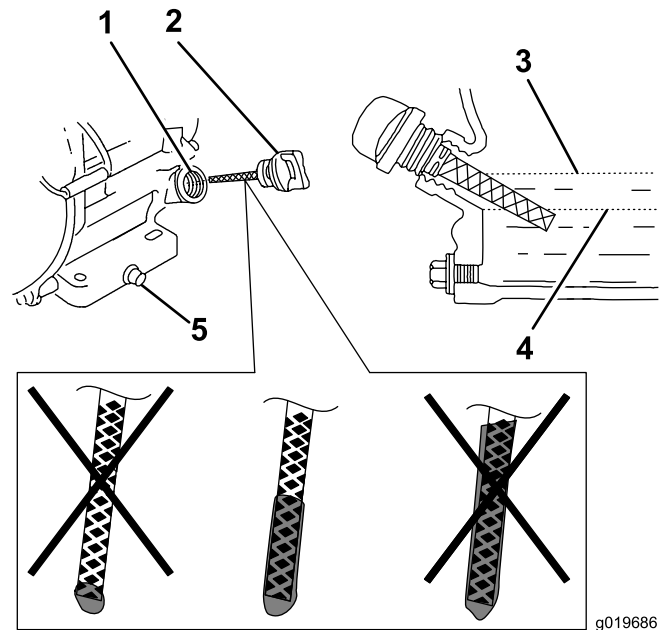

Figure 11
The machine comes from the factory with oil in the engine crankcase, however, it may be necessary to add oil (Changing the Engine Oil (page 15). Add only enough oil to raise the level to the Full mark on the dipstick; refer to Figure 11.
5. Remove the dipstick again and look at the end. If the engine-oil level is low, slowly pour only enough oil into the filler tube to raise the level to the middle of the dipstick (Figure 11).